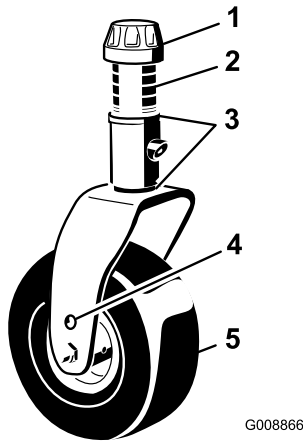

Figure 105
1. Remove the tensioning cap from the spindle shaft and slide the spindle out of the castor arm (Figure 105). Reposition the shims, as required, to raise or lower the castor wheel until the cutting unit has the correct pitch.